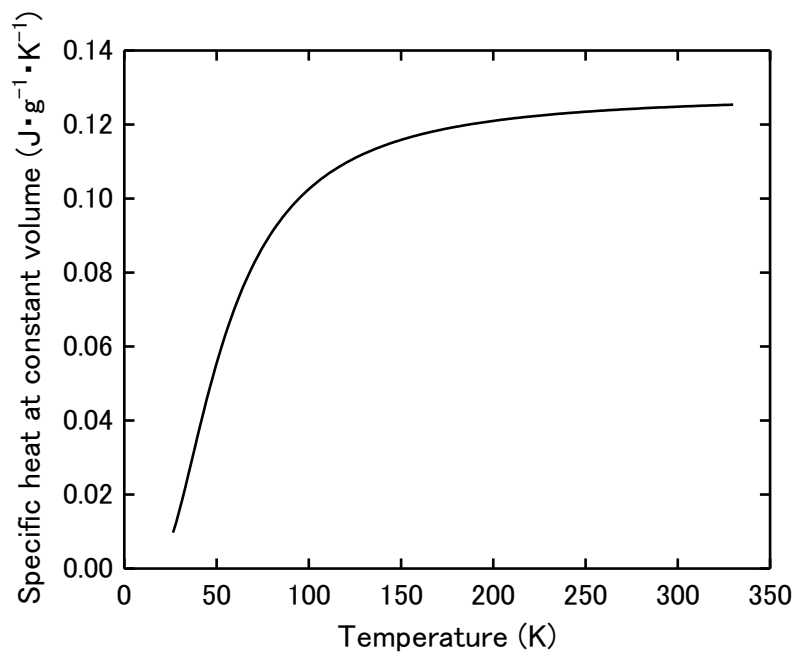

Figure 1
(3) Derive the relation,  $C_V = 3mk_B$ , in a high temperature region of  $T \gg \hbar\omega/k_B$ . This indicates that the molar specific heat of a solid element is  $3R$  ( $R$ : gas constant). Answer the name of this law.
- (4) Figure 1 shows the temperature dependence of the heat capacity at constant volume per 1 g (the specific heat at constant volume), experimentally obtained for a certain substance, Au, Ag or Cu. Answer which material the experimental result is for, together with the reason. Use the following values, if necessary, atomic weight of Cu: 63.5, atomic weight of Ag: 108, atomic weight of Au: 197, Avogadro constant:  $6.02 \times 10^{23} \text{ mol}^{-1}$ , and  $k_B = 1.38 \times 10^{-23} \text{ J} \cdot \text{K}^{-1}$ .